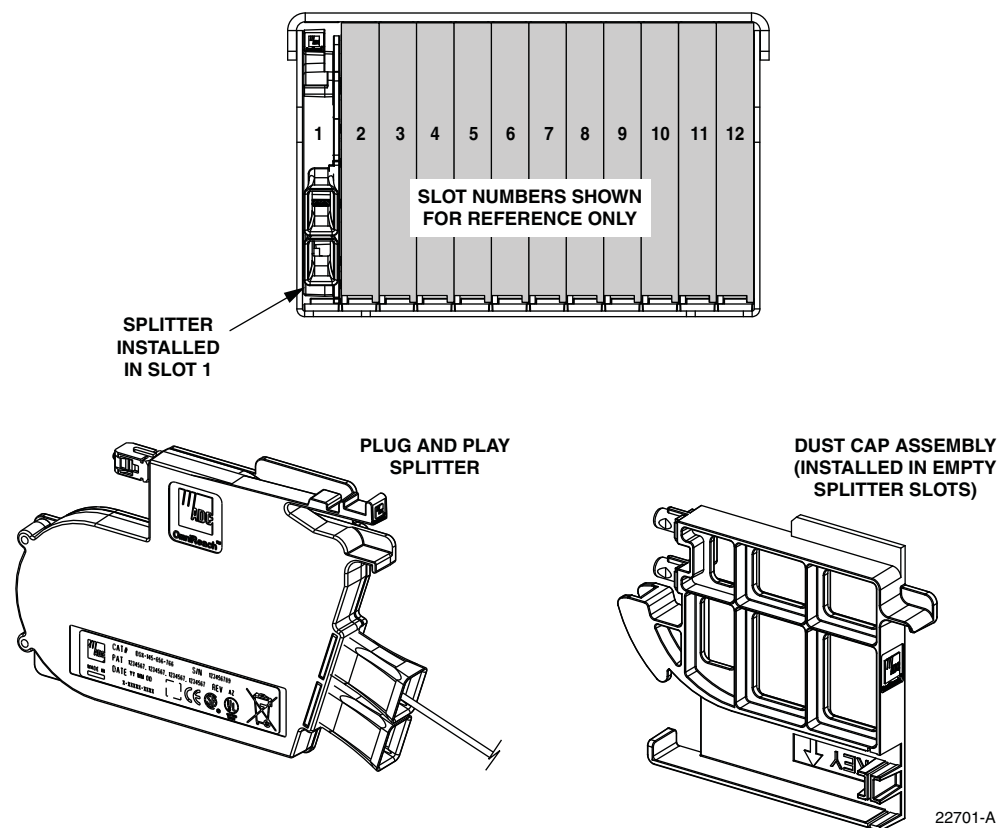

Figure 40. Splitter Module Installation
1. Locate the next available splitter mounting position as shown in Figure 40.